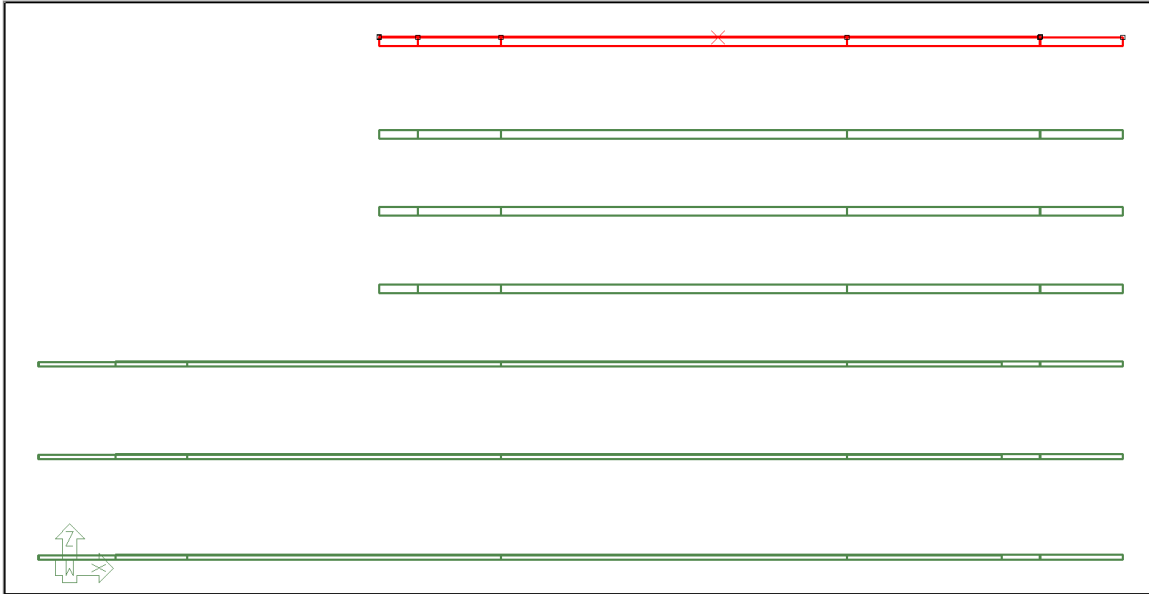

FIGURE 8-19
- Drag and select the Roof level slab. Once the slab is selected it should be highlighted in a red color as shown in **FIGURE 8-19**.